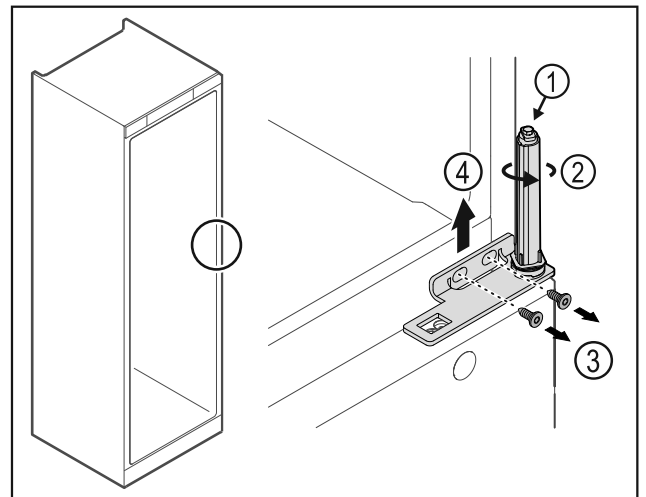

Fig. 23
- ▶ Do not disassemble the door closing system Fig. 23 (1).
- ▶ Turn the closing system Fig. 23 (2) until it clicks.
- ▶ Loosen the screws Fig. 23 (3) and lift off the hinge Fig. 23 (4).